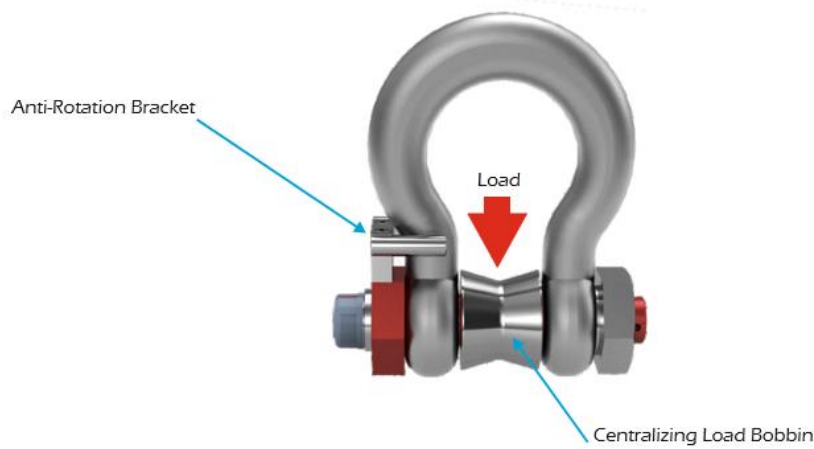

FIGURE 2
- The direction of the load applied to a shackle should be linear, as shown in figure 2.
With the load shackle installed, check the displayed output is not negative, as this may indicate either a fault, or that a compressive force is being applied to the load shackle. See Figures 2 and 3 for details of correct loading.